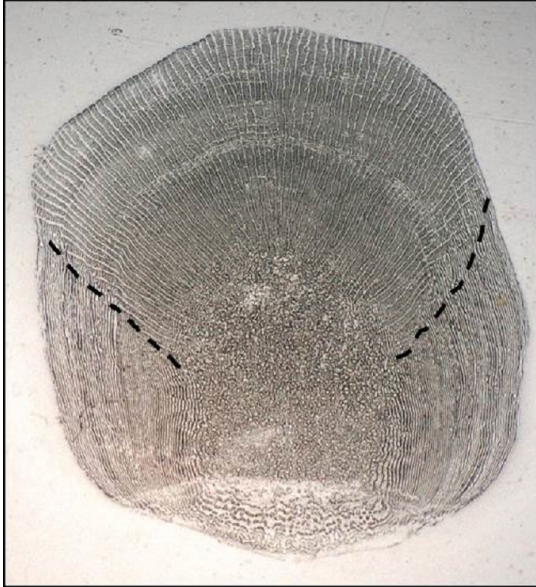

Figure 4: Summer flounder regenerated scale. Focus is not clear and radii do not form a true V-shape.
3. The scale is not a regenerated scale (Figure 4);
1. The focus is unclear or the impression is of a regenerated scale (Figure 4);